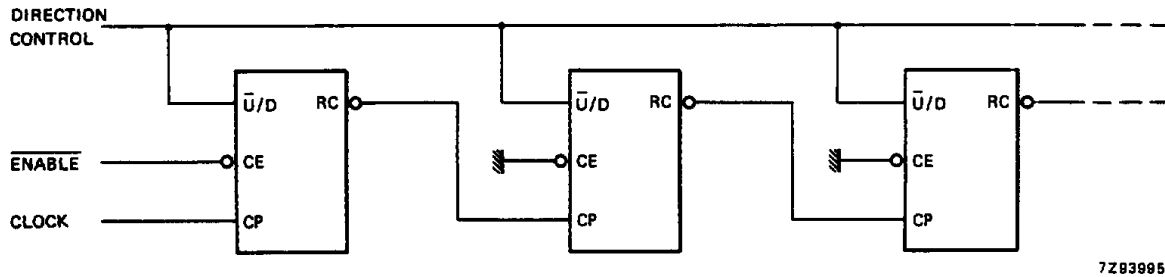
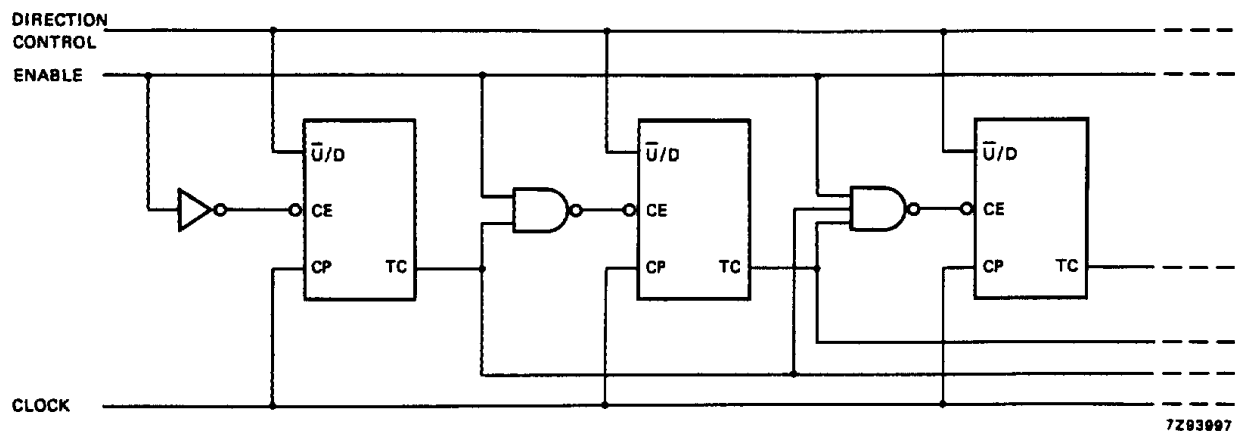

Fig.5 N-stage ripple counter using ripple clock.
Fig.7 Synchronous n-stage counter with parallel gated carry/borrow.
Overflow/underflow indications are provided by two types of outputs, the terminal count (TC) and ripple clock ($\overline{RC}$). The TC output is normally LOW and goes HIGH when a circuit reaches zero in the count-down mode or reaches "15" in the count-up-mode. The TC output will remain HIGH until a state change occurs, either by counting or presetting, or until $\overline{U/D}$ is changed. Do not use the TC output as a clock signal because it is subject to decoding spikes. The TC signal is used internally to enable the $\overline{RC}$ output. When TC is HIGH and $\overline{CE}$ is LOW, the $\overline{RC}$ output follows the clock pulse (CP). This feature simplifies the design of multistage counters as shown in Figs 5 and 6.
In Fig.5, each $\overline{RC}$ output is used as the clock input to the next higher stage. It is only necessary to inhibit the first stage to prevent counting in all stages, since a HIGH on $\overline{CE}$ inhibits the $\overline{RC}$ output pulse as indicated in the function table. The timing skew between state changes in the first and last stages is represented by the cumulative delay of the clock as it ripples through the preceding stages. This can be a disadvantage of this configuration in some applications.
In Fig.7, the configuration shown avoids ripple delays and their associated restrictions. Combining the TC signals from all the preceding stages forms the $\overline{CE}$ input for a given stage. An enable must be included in each carry gate in order to inhibit counting. The TC output of a given stage is not affected by its own $\overline{CE}$ signal therefore the simple inhibit scheme of Figs 5 and 6 does not apply.